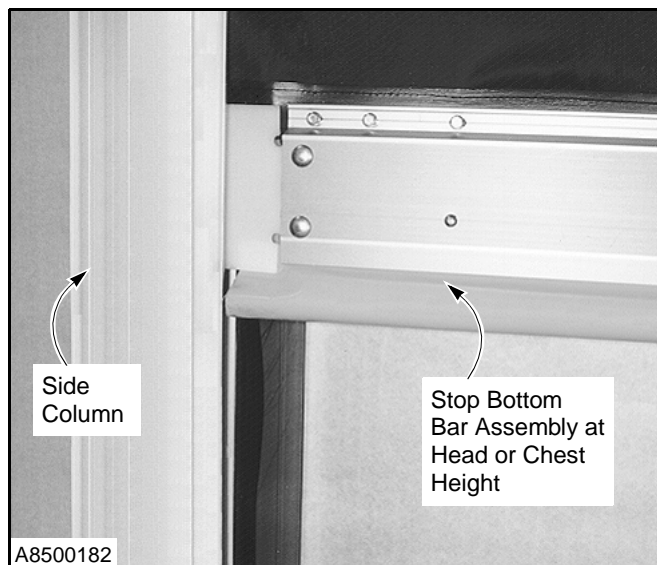

Figure 31
1. Raise or lower the door, as necessary, until the bottom bar is approximately head or chest height. (See Figure 31.)